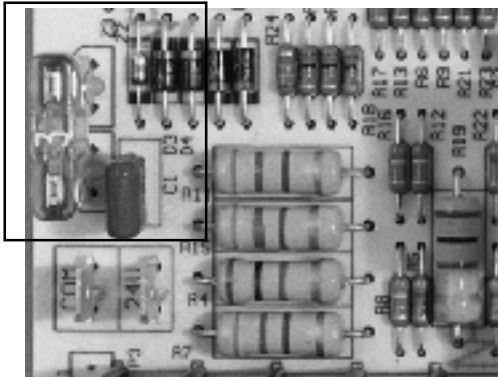

Figure 30.
- B. Low Voltage Fuse - an over-current, short circuit safety device designed to protect the control board in the event of a low voltage short or over-current. (See Figure 30.)